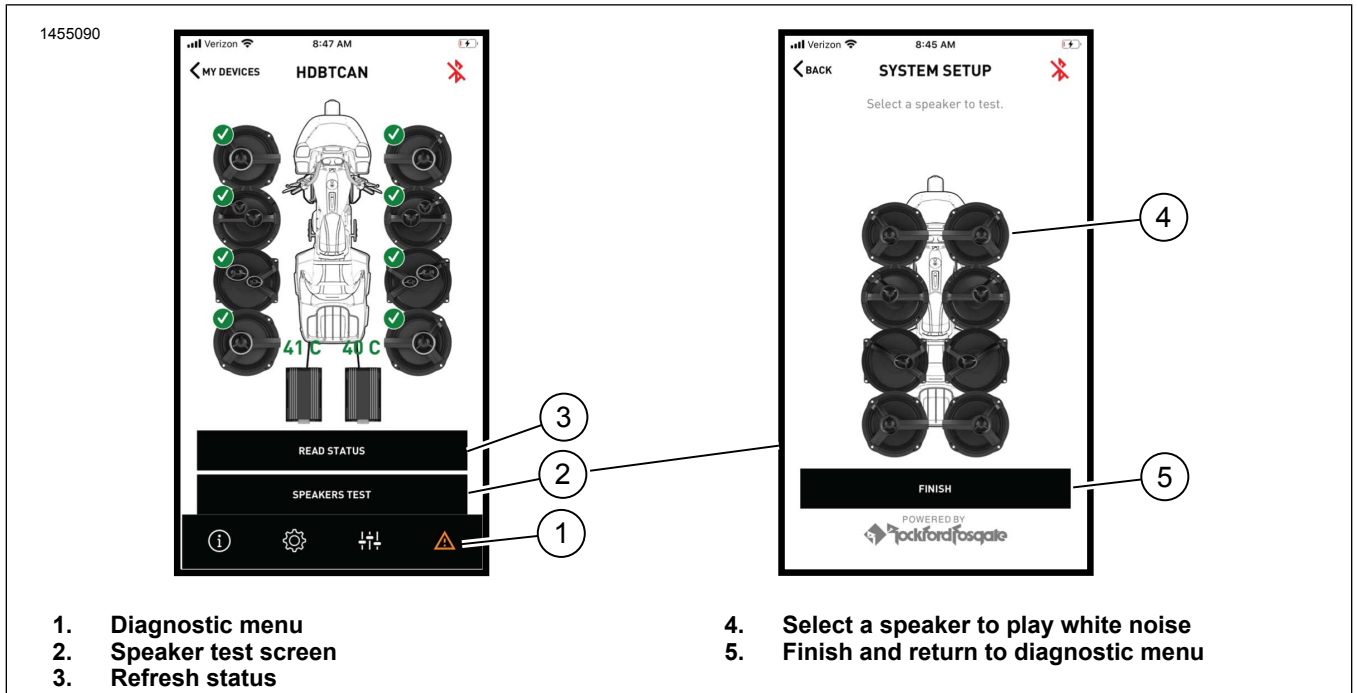

Figure 14. Diagnostic Menu
5. Figure 14 Diagnostic menu screen.
- Diagnostic menu icon (1) displays sound system status.
- Open the speaker testing screen (2).
- Refreshes speaker and amplifier status (3) after component repair.
- Select speaker for white noise (4) test and functionality.
- Return to diagnostic menu screen (5).